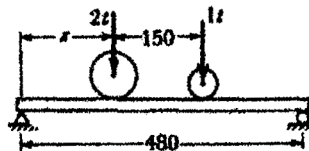

Fig.7 (a)
- 7(a) A 6-tonne tractor is to cross a bridge consisting of two parallel beams as shown in Fig. 7(a). What is the required section modulus Z for each beam if the allowable working stress in bending is $\sigma_w = 1,120 \text{ kg/cm}^2$.